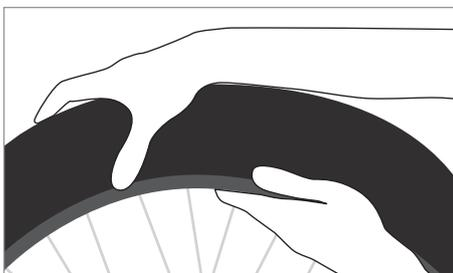

Figure 3
5. Place your hands on the uninstalled tire bead opposite the valve. Then push the bead over the rim lip (Fig.3). Work your way around the rim until the entire bead is inside the rim. Make sure the tube is not pinched between the rim and the tire.